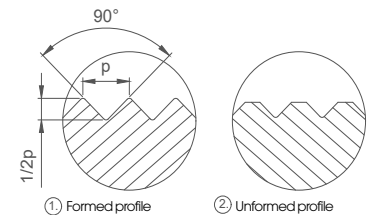

Fig. 8: Different profile pattern
The profile depth is set in the component by moving in the X direction and corresponds to approximately the half pitch  $p$  (with 90° flank angle), (Fig. 8). After reaching the depth, the dwell time of the tool should be between 3 and 10 revolutions of the workpiece. Then disengage the tool while the spindle is rotating. The profile is completely formed when the tooth tips are closed (Fig. 8, ref. 1). A new setting takes place when the profile is not formed (Fig. 8, ref. 2). Running into the profile again is possible, because the knurling wheels catch in the existing profile. Guidelines for calculation of the material distortion are provided in Tables 6–8 in chapter 12, Material distortion table. This depends on the knurling profile, workpiece diameter and pitch.